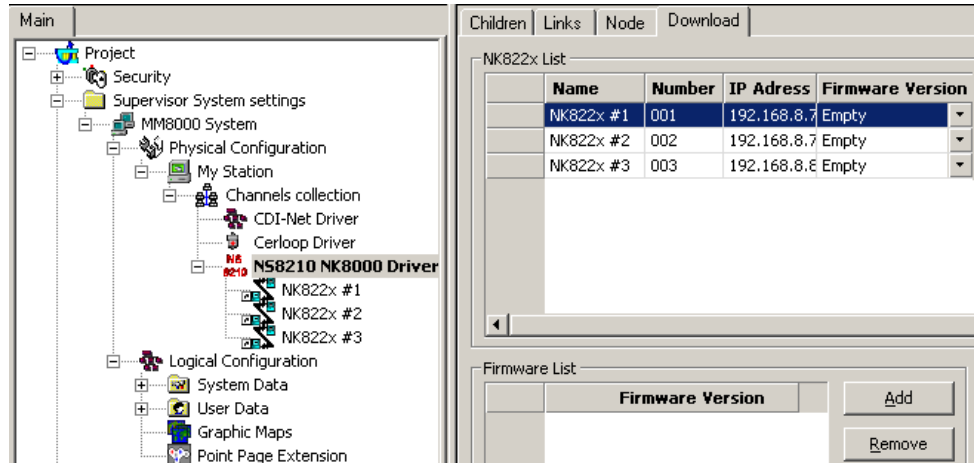

Fig. 17 Download tab
4. Select the **NS8210 driver** node and then the **Download** tab (Fig. 17).